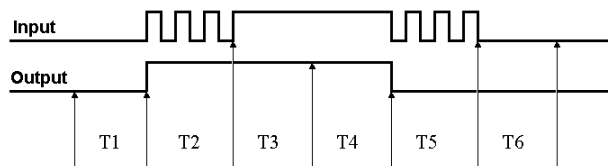

Figure 14. Debounce module – Trigger before stable mode
- T1 – In Figure 14, the input signal is low for the debounce time (equal to T1); therefore when the input edge arrives at the end of time period T1, it is accepted and the output (of the debounce module) goes high. Note that a period of stability must precede the edge in order for the edge to be accepted.